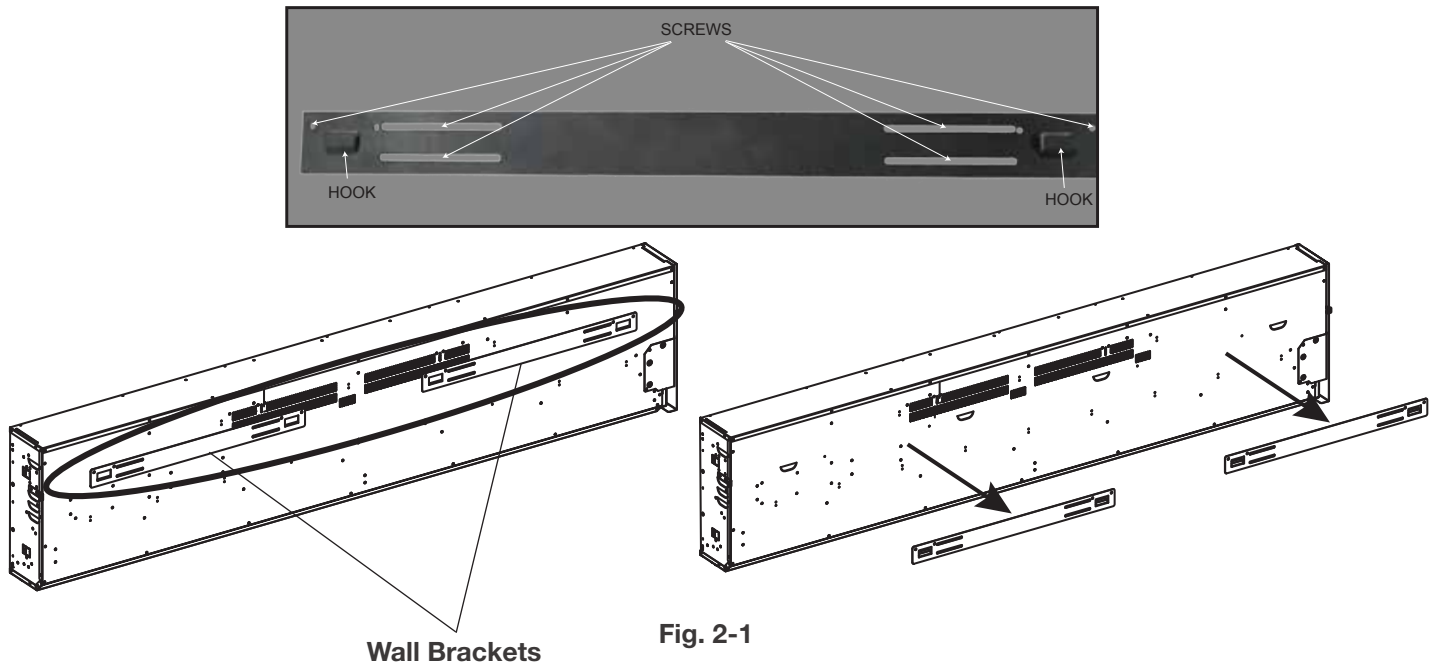

Fig. 2-1
3. Place appliance face down on a soft, non-abrasive surface. Remove the bracket from the back of the appliance by removing the screws (Fig. 2-1). Set the screws aside.